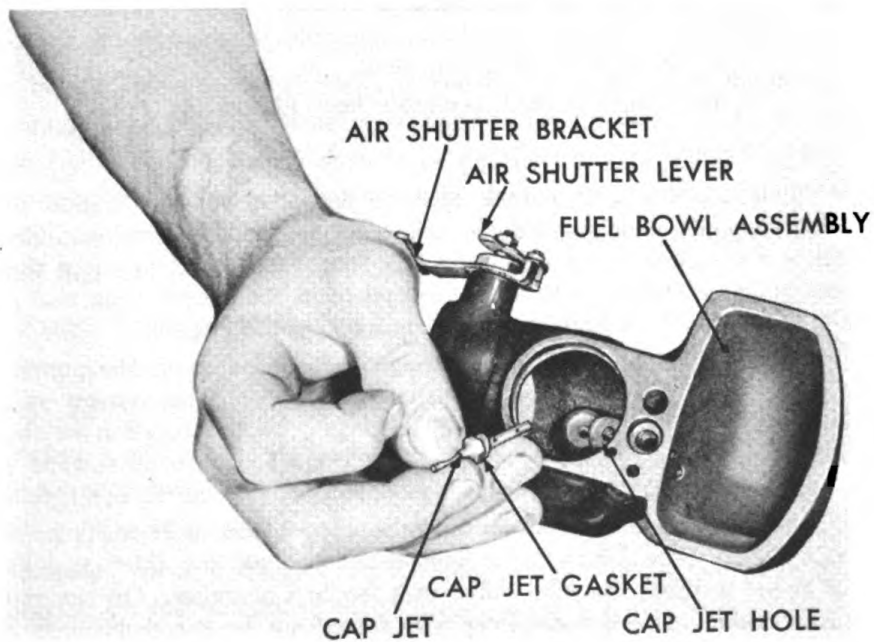

Figure 291. Removing Carburetor Cap Jet.
- i. Remove cap jet (C161-25 or C161-79 service tool). See figure 291.
- g. Install cap jet and gasket (Tool C161-25). See figure 291.